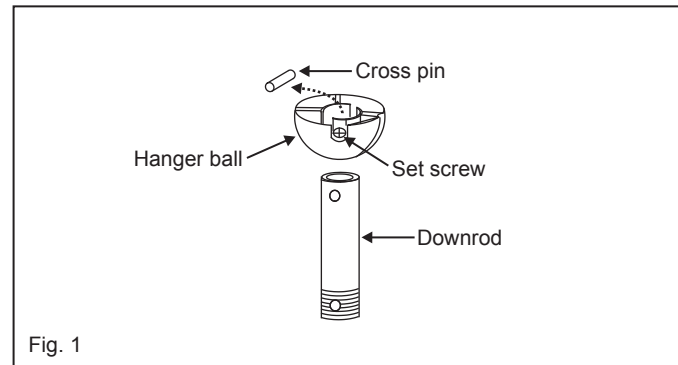

Fig. 1
- 1 Remove ball from downrod by loosening set screw in the side of the ball. Slide ball down and remove ball pin; remove ball. (Fig. 1)
1. Insert the receiver into the ceiling mounting bracket with the flat side of the receiver facing the ceiling. (Fig. 1) For best performance, make sure the Black Antenna and WiFi Antenna, on the end of the receiver, remains extended and not tangled with any of the electrical wires.
- 1 Remove one of the three screws on the mounting hub located on the fan motor. Loosen the other 2 screws. (Do not remove) (Fig. 1)
- 1 Select a desired location. Use the wall plate to mark the location of the mounting holes. Plastic wall anchors or mounting screws are needed for this application. (Fig. 1)
Remove the panel from the transmitter and then install one 2032 battery (included). You need to use a coin to open or close the battery cover. To prevent damage to transmitter, remove the battery if not use for long periods of time (Fig. 1)